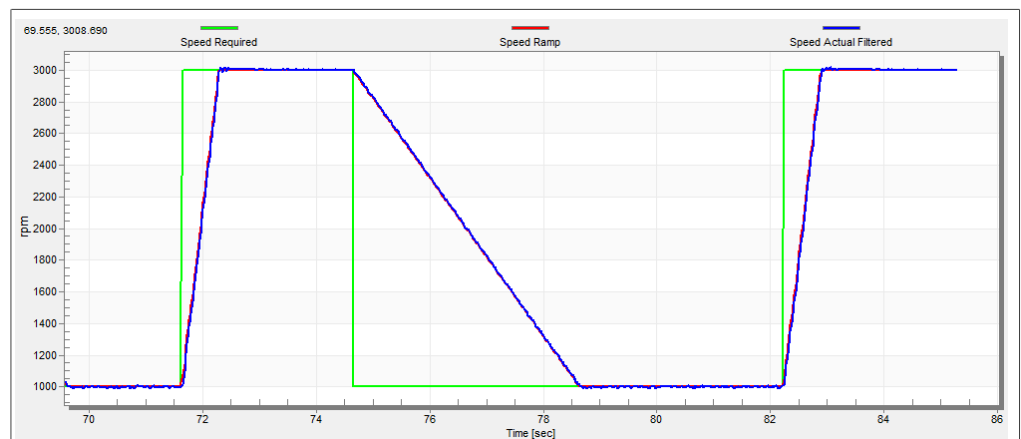

Figure 25. Speed profile
2. The increments are common for the scalar and speed control. The increment fields are in the “Speed loop” tab and accessible in both tuning modes. Clicking the “Update target” button applies the changes to the MCU. An example speed profile is shown in Figure 25. The ramp increment down is set to 500 rpm/sec and the increment up is set to 3000 rpm/sec.